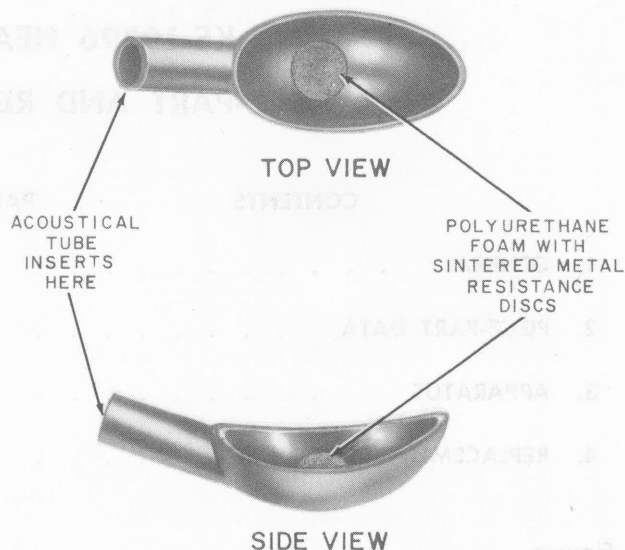

Fig. 1—Acoustic Coupler, KS-19796, L52 (PAC1)
2.01 The acoustic coupler (Fig. 1) is a small spoon-shaped rubber device which interposes in the transmission path a small piece of polyurethane foam and two sintered-metal acoustic resistance discs. This device, fitted on the speaking end of the acoustical tube, places the resistance discs into the transmission path improving the transmission in the presence of noise, provided the headset is properly worn.